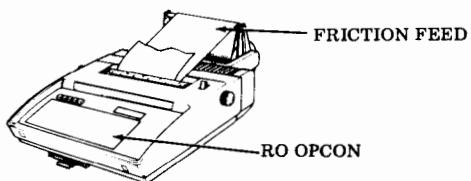

Fig. 2—RO Friction Feed and Interface Connectors
2.03 Various 43 terminal arrangements are also available without a directly connected telephone with either friction or sprocket feed paper handling as follows (See Fig. 2):
- Receive Only (RO) terminals with either a TDU, a TAU or no TU.